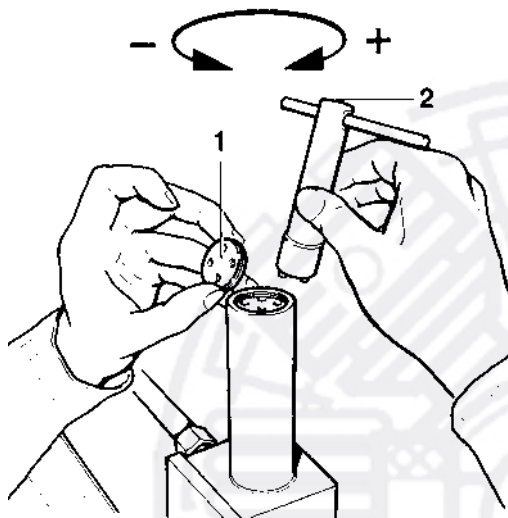

Fig. 71 Pressure maintaining valve, 90 bar units
The opening pressure is adjustable with key (2, Fig. 71).